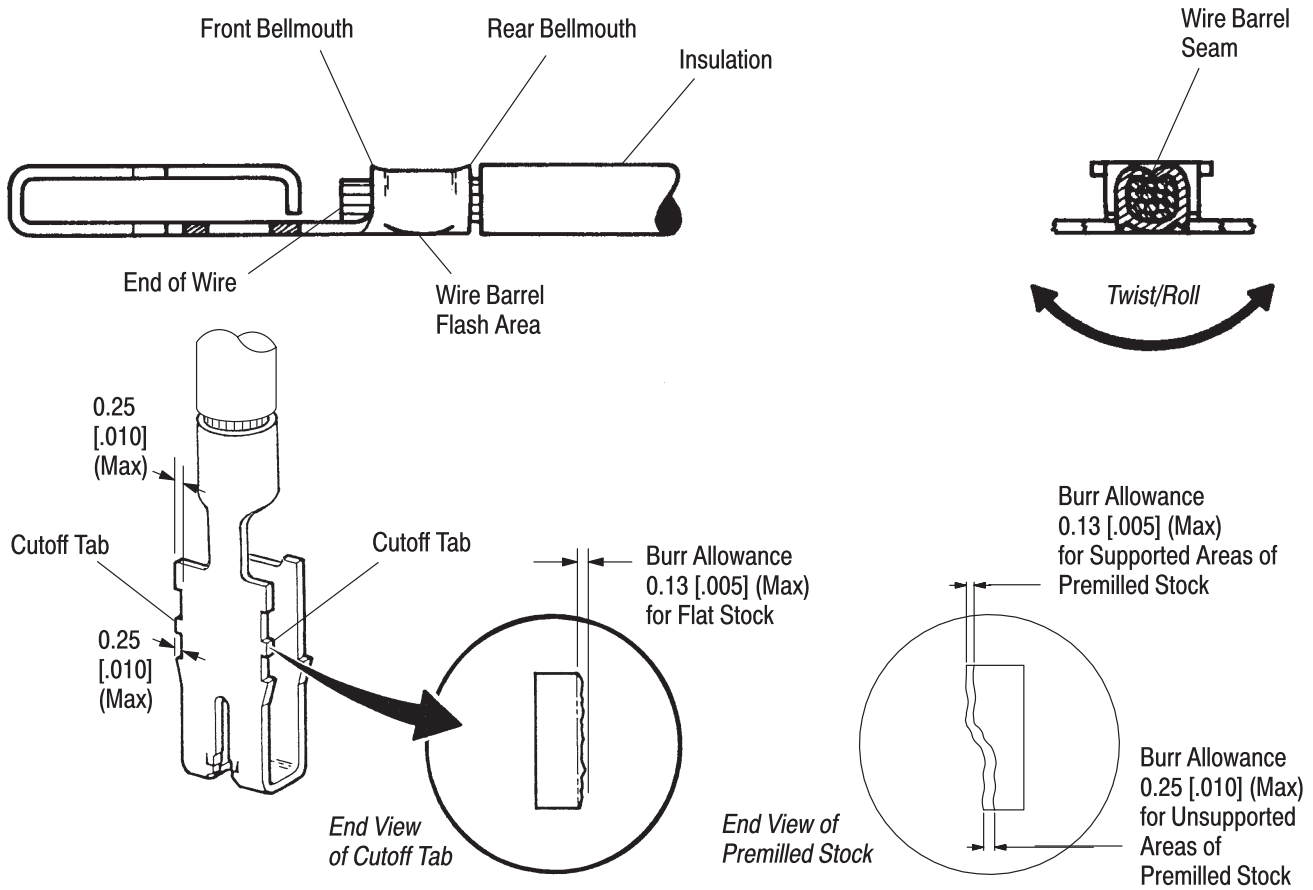

Figure 7
**3.4. Terminating Crimp Wire** (Figure 7)